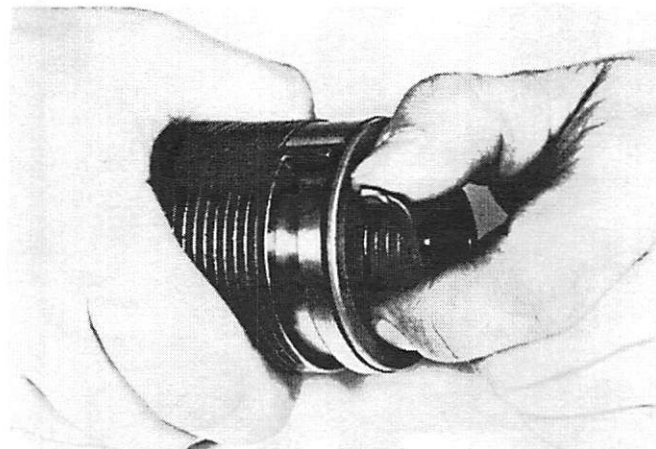

Figure 5. Removing and Installing Neutral Spring
A. Neutral Spring: To remove neutral spring from input drum and gear assembly, turn neutral spring in counterclockwise direction and pull apart at same time. Do not stretch neutral spring excessively. (Figure 5)